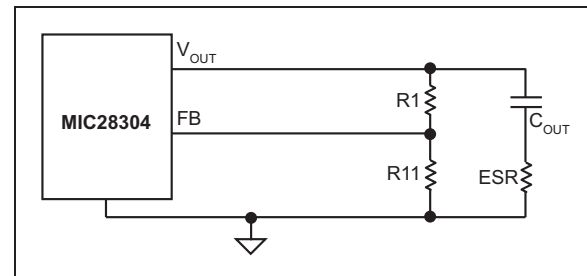

FIGURE 7-5: Enough Ripple at FB.
1. Enough ripple at the feedback voltage due to the large ESR of the output capacitors (Figure 7-5):
As shown in Figure 7-5, the converter is stable without any ripple injection.